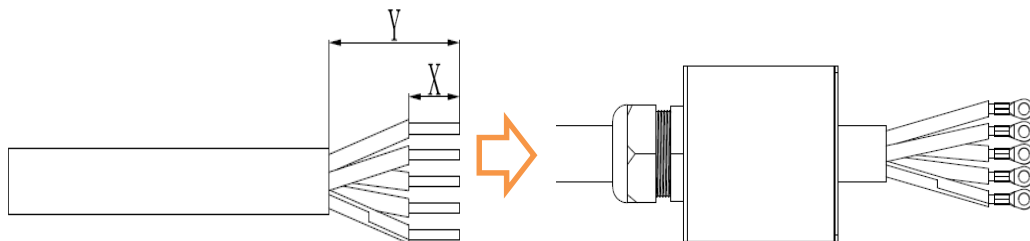

Fig. 18
1. Pass the cable with appropriate length through the waterproof terminal cover. The ground and neutral wire are longer than the live wire. Strip the insulating layer of the cable by about 10mm (Fig. 18)